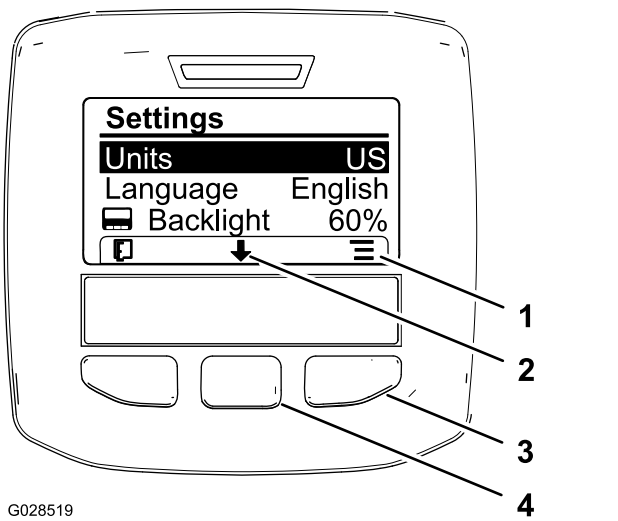

Figure 63
2. To change the unit of measure, press the right selection button to change the listed units of measure (Figure 63).
3. To change the language used in the display, pressing the center selection button (the button below the down arrow in the display) to move the selected option to Language (Figure 63).
4. Press the right selection button (the button below the list icon in the display) will to highlight the listed language used in the display (Figure 63).
6. Press the left selection button to return to the Home screen (Figure 63).